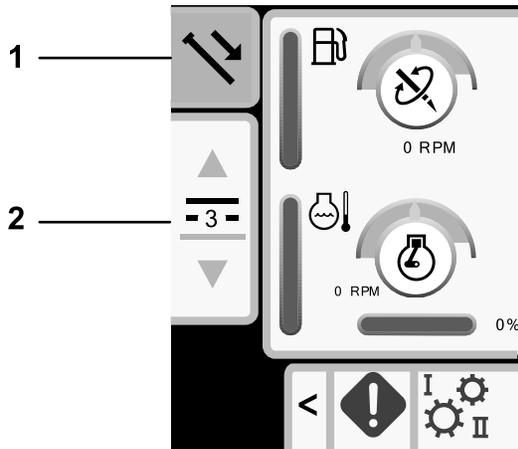

Figure 28
1. Push button 1 to select push pipe (Figure 28).
2. Push buttons 2 and 3 to select the row where you want to get the pipe (Figure 28).